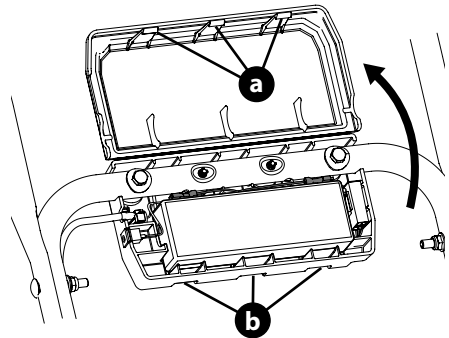

Figure 14
1. Release the three locking tabs (a) from the slots (b) and open the battery box (Figure 14).